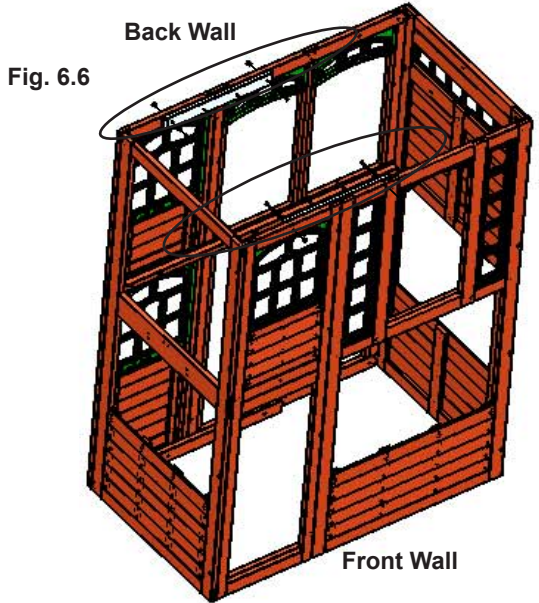

Fig. 6.6
E: From inside the assembly, place 1 (062) Tie centred between (041) Narrow Back Panel and (052) Back Wall Panel so it is flush to the tops of the panels and the angled ends face out then attach with 2 (H10) 1/4 x 2-1/4" Hex Bolts (with lock washer, flat washer and t-nut) and 2 (S11) #8 x 2" Wood Screws. (fig. 6.6 and 6.7)
F: Repeat Step E to attach 1 (062) Tie to (042) Narrow Front Panel and (051) Front Wall Panel. (fig. 6.6 and 6.7)